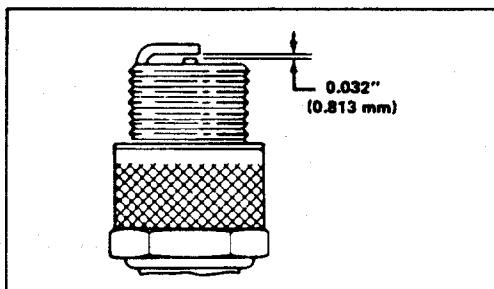

Figure 17
3. Set air gap at 0.032" (0.813 mm) (Fig. 17). Install correctly gapped spark plug and gasket seal. Tighten plug firmly to 15 ft-lb (20.4 N·m).